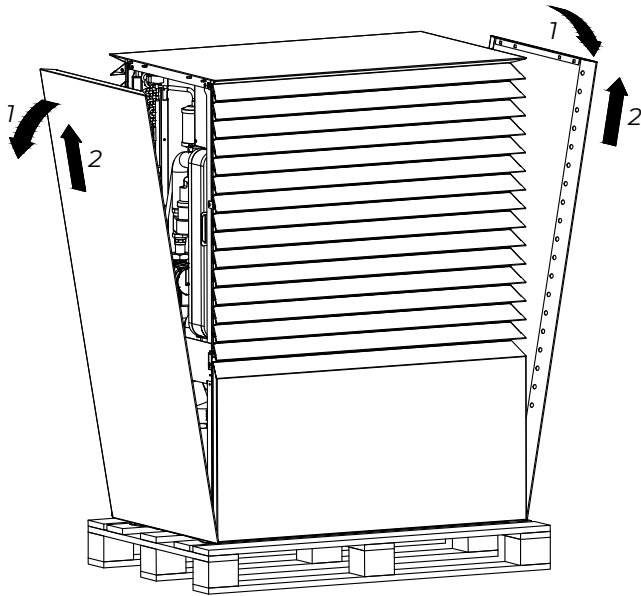

Figure 3: Removing the side panels
Remove the protective packaging. Remove the two side panels from the appliance (Figure 3) by first pulling them toward you (1) and then lifting them (2). Put the side panels down and protect them, preventing any possible damage during installation.